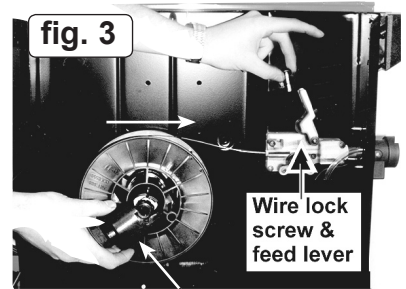

fig. 3
- 3.5.1. Push wire reel over reel holder end springs and onto reel holder ensuring that the spool rotates clockwise, with the wire drawing off the reel from the top (see white arrow in fig. 3). Large spools of wire have a guide hole which must be pushed onto the plastic pin located at the end of the reel holder. This pin will stop larger reels from free-wheeling.
- 3.5.3. Undo the wire lock screw and lift the wire feed lever up to the right (fig. 3).
- 3.7.3. Tighten the clutch, located in the centre of the wire spool holder (fig. 3), with a screwdriver and test the machine as above until the wire stops overrunning.